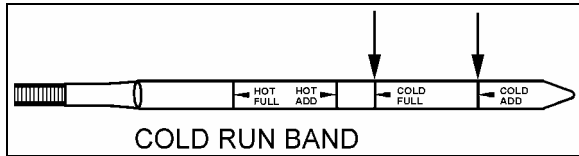

FIGURE 4: COLD CHECK
| FIGURE 4: COLD CHECK | 5 |
3. Shift to Drive (D) and operate the engine for 30 seconds at 1000-1500 rpm; then shift to Reverse (R) to clear the hydraulic system of air.
5. Finally shift to Neutral (N) and allow the engine to idle (500 - 800 rpm).
6. While the engine is running, remove the dipstick from the tube and wipe it clean (Figs. 4 & 5). Insert the dipstick into the fill tube, pushing down until it stops.